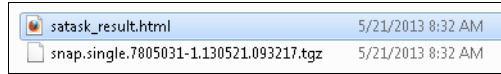

Figure 12-71 Single snap result files on USB stick
- Remove the USB stick and check the results, as shown in Figure 12-71.